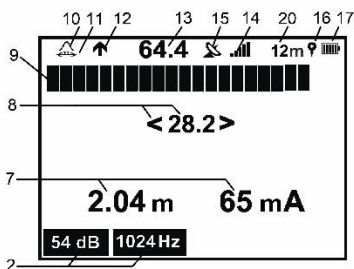

Fig. 18 Display in "Track" mode
- TRACE – to locate the utility and detect its depth and operating frequency current flowing through it. The display of this mode is shown in Fig.18.
The “peak scale expansion 1:4” option reduces the scale divisions to increase its resolution. The  icon (Pos. 11 in Fig. 18) will be displayed, a yellow strip will appear under the peak scale to show the expansion bar graph relative to the normal (unexpanded) scale.
The method of current direction may be used to locate target line in the areas with high concentration of utilities. Select the mode of double-frequency signal of «1024 Hz» on the Transmitter, and set the operating Receiver's frequency at «1024 Hz». If the double-frequency signal strength is sufficient, the indication of current direction (Fig. 18, Pos. 12) will be active automatically.